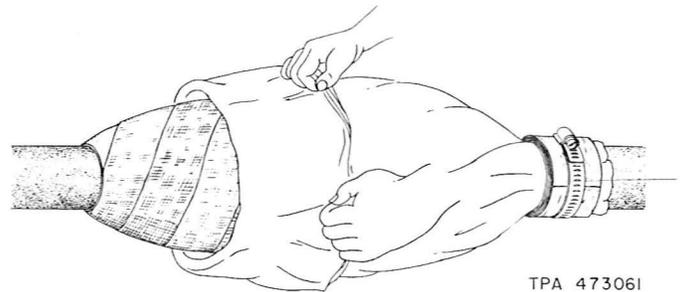

Fig. 12—Folding Splice Cover
**8.03** Fold the splice cover away from the splice opening (Fig. 12).